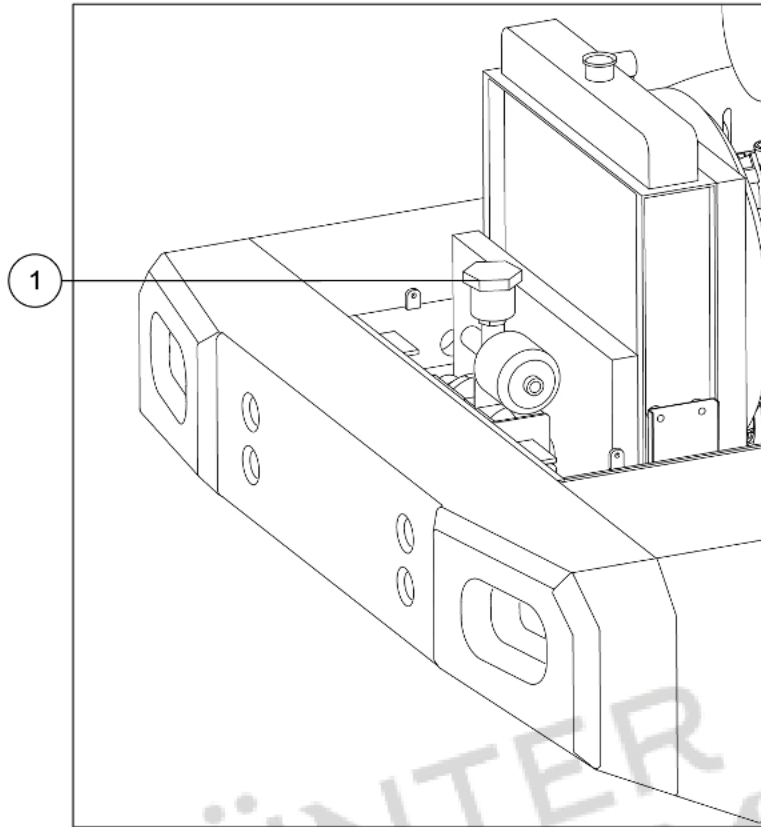

Figure 6-27 Brake fluid tank
Step 7: Start the engine and run at idle speed for 2 to 3 minutes, then stop it. Recheck transmission oil level. Refer to *chapter 6.2.2.8 Checking the transmission oil level* to ensure that transmission oil level is not higher than upper limit of oil level gauge (5).
Step 2: Open the engine hood and check the brake fluid level. If the brake fluid is lower than 1/3 of the height of the brake fluid tank (1), add the same type of brake fluid. The brake fluid should not be higher than 2/3 of the height of the brake fluid tank, as shown in Figure 6-27;